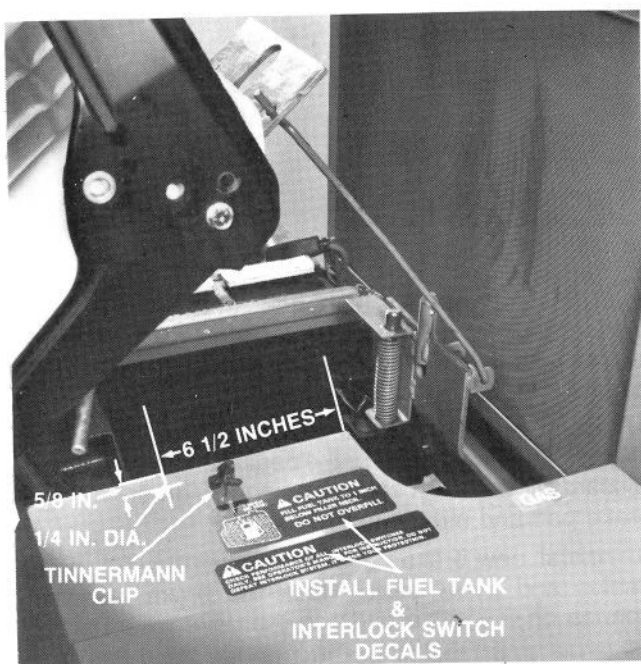

Figure 4
7. Measure, center punch and drill a 1/4 inch hole in the top of the tool box cover (Fig. 4). Install the Tinnermann Clip. Use it to store the seat prop.
8. Install fuel tank decal on top of the tool box cover. Also install interlock switch decal (Fig. 4).